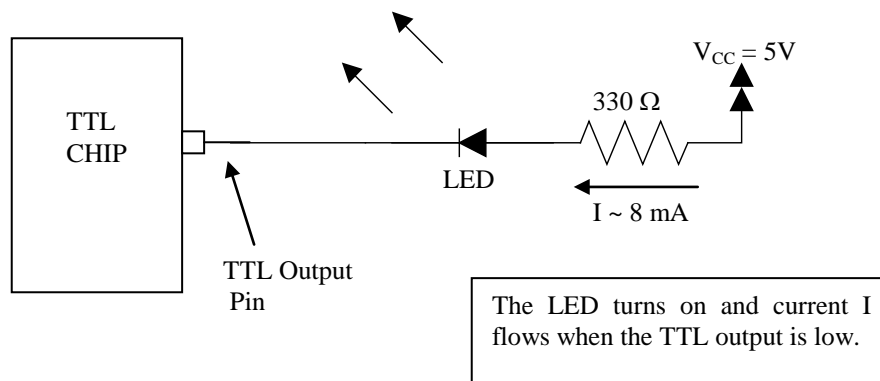

Figure 6. Connecting an LED to a TTL output.
In this step, you will learn how to connect an LED to a TTL output. In order to limit the LED current and to protect the chip, it is necessary to put a resistor in series with an LED. For a standard TTL output, it is desirable to limit the current to approximately 8 mA. For a standard red LED, this can be accomplished by using a 330 Ω resistor as shown in Figure 6.
- Turn off the power, and connect your LED and resistor to output 0 as shown in Fig. 6. Also connect output 0 to the logic probe (bit-bucket built-in LED).